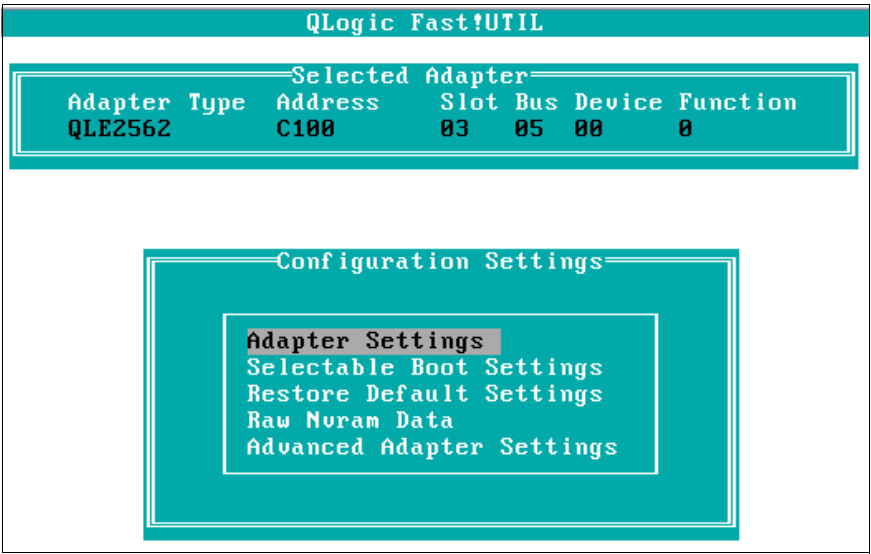

Figure 5-45 Adapter Settings
5. Select **Host Adapter Settings**, as shown in Figure 5-45.